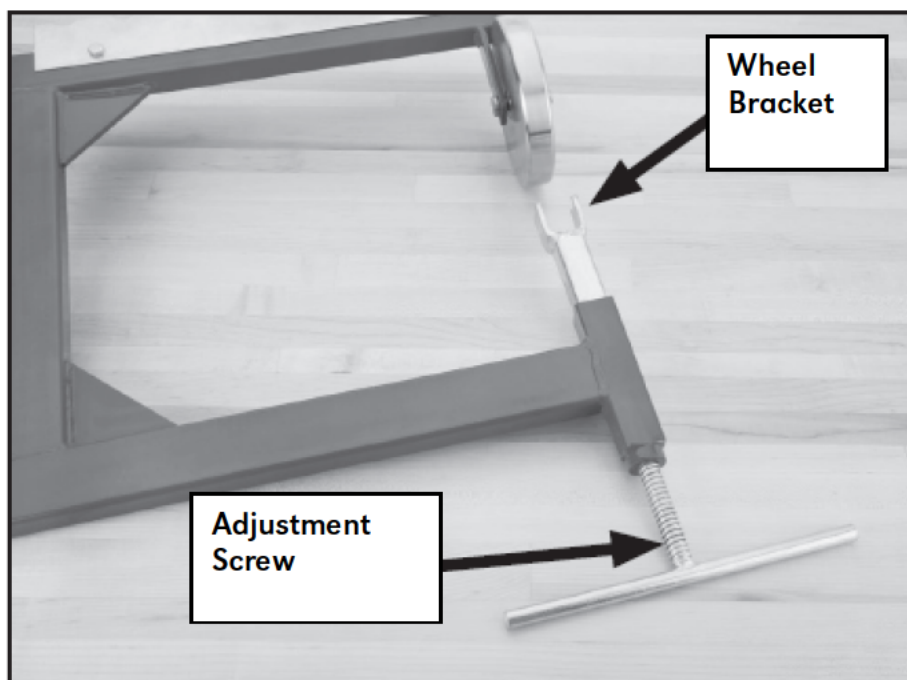

Figure 6. Lower wheel adjustment screw installed.
3. Lay the frame down flat and thread the lower wheel adjustment screw into the frame opposite the wheel bracket (see Figure 6).